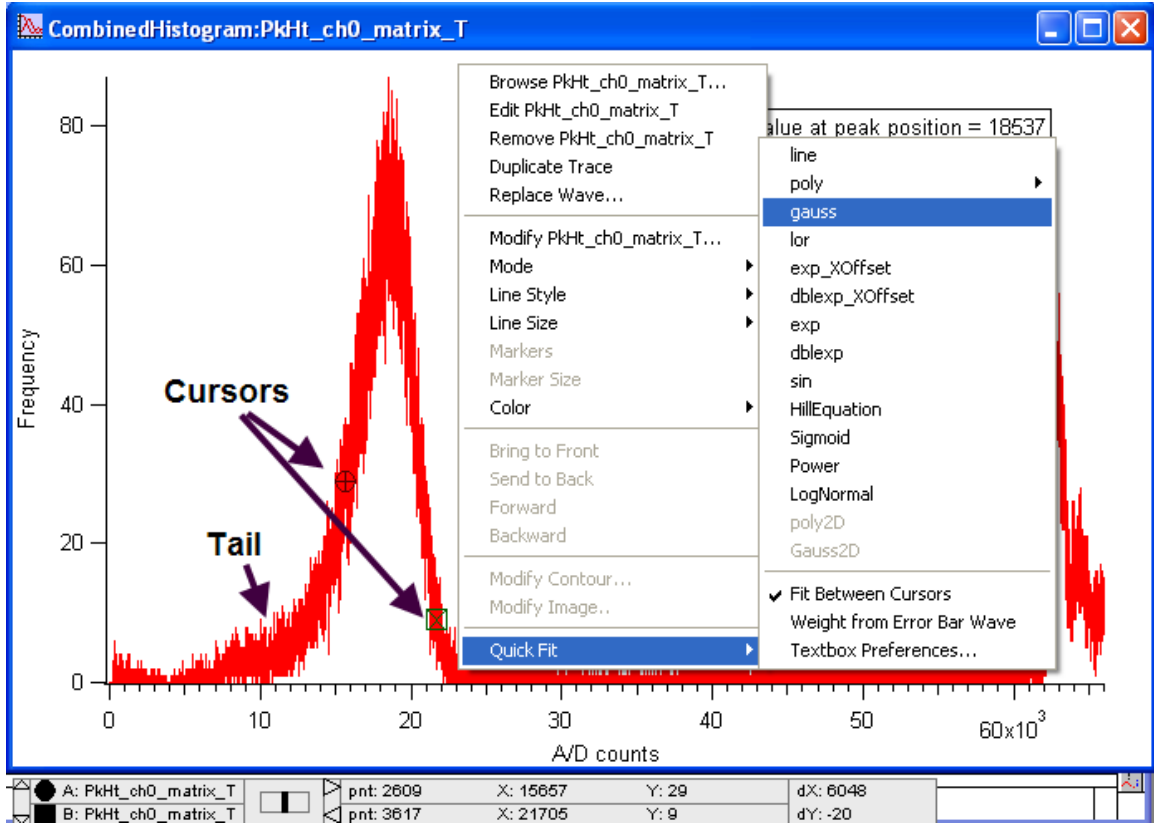

Figure 6: Fitting a Gaussian distribution to the Peak-Height Graph
7.) To fit a Gaussian curve to the distribution, do the following (see Figure 6):
- a. Drag the A and B cursors at the bottom of the window to the fit points on the curve. Use the largest curve, as any smaller curves to the right are from doubly and triply charged particles (seen with DMA-sizing). In the event of a skewed distribution, use the cursors to select only the best portion of the curve. In Figure 6, for instance, the curve is slightly skewed with a tail to the left of the peak; the cursors omit this section.